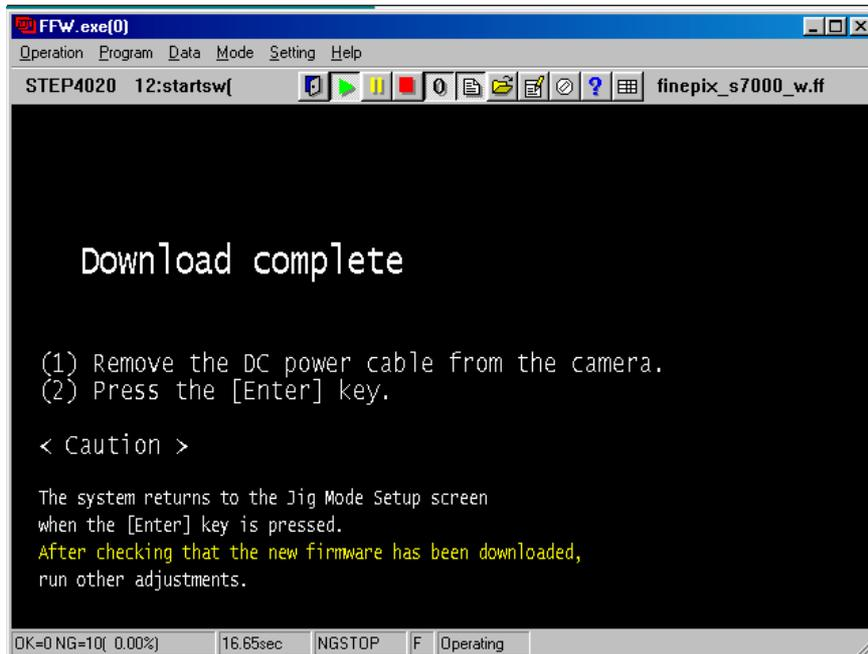

Fig.40
---> The [Downloading Complete Screen (Fig.40)] appears.
Follow the instructions on the [Downloading Complete Screen (Fig.40)], and do the following.